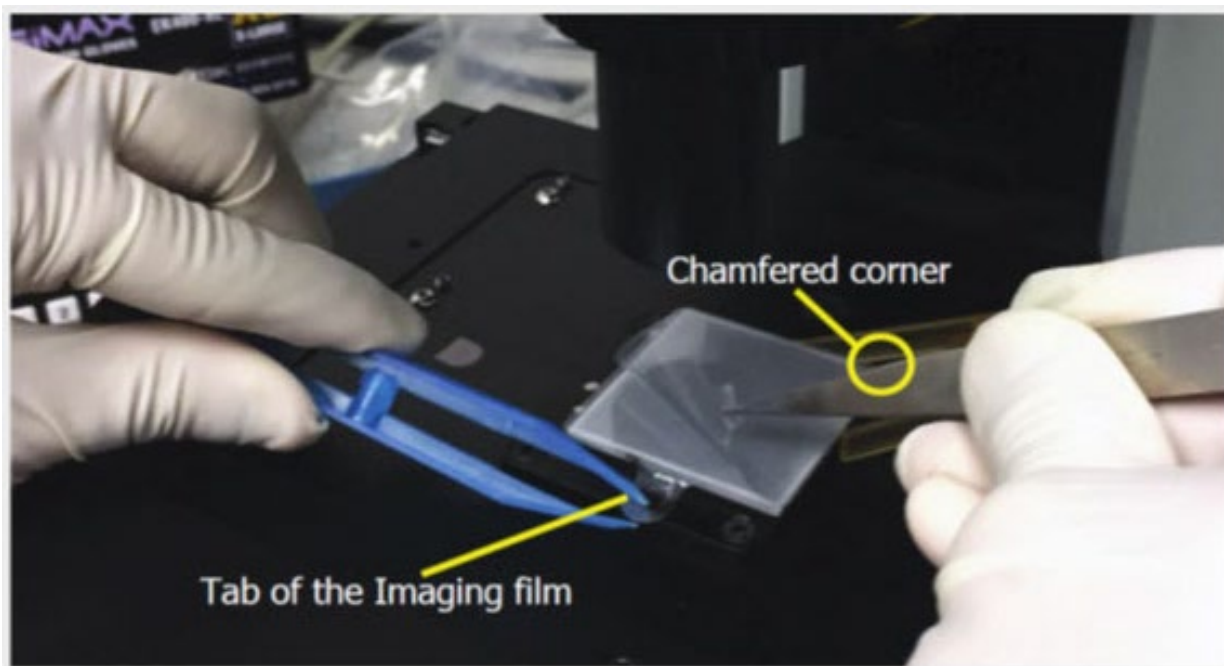

Figure 18. Seating the chip on the microscope holding platform.
- Place the chip on the microscope Holding Platform with the chamfered (notched) corner facing the upper right corner (Figure 18, below). **Ensure that the chip is sitting flat on the chuck from all sides and is in the correct orientation.**
9. Ensure the chip is perfectly flat and seated square relative to the pins before removing the second release liner. Peel off the top layer release liner of the imaging film using tweezers (Figure 18, above). **Save the release liner.** The chip will remain sealed by the double-sided intermediate film layer.